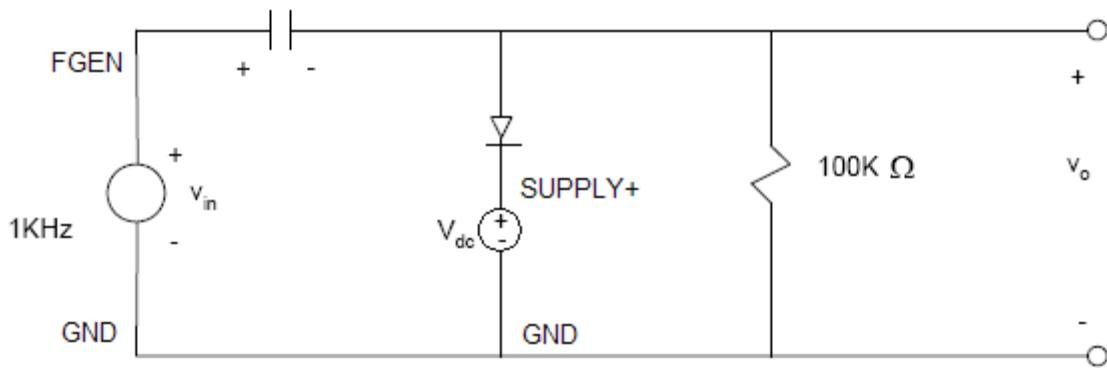

Figure 4.8: Clamping circuit
Build the circuit shown in Figure 4.8 and make an accurate sketch of the input and output waveforms for a 8V_{P-P} sine wave input voltage for each of the following conditions. **Each condition should be relative to the circuit as shown in Figure 4.8.** Be sure to record the peak values of both waveforms on your sketch. A capacitor larger than 22 μ F will work in this circuit. **Set the coupling of both oscilloscope channels to DC.**
4. Clamper — Build circuit (Figure 4.8)